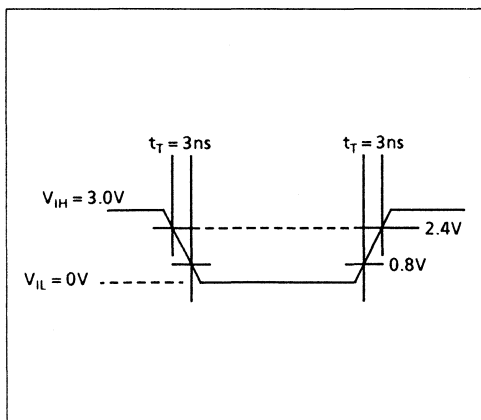

Figure 2 Input pulse
- Input timing reference levels: high = 2.4 V , low = 0.8 V (See figure 2.)